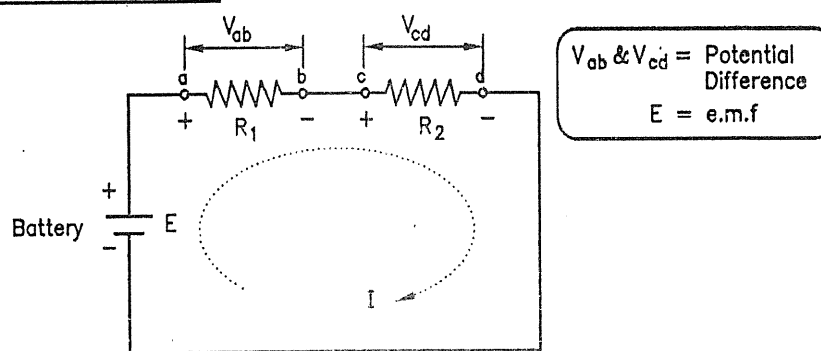

FIG. 1.2
- In Fig. 1.2 current of I ampere flows through the circuit due to emf E . Due to this current flow, potential difference V_{ab} is produced across two terminals of resistor R_1 and potential difference V_{cd} is produced across two terminals of resistor R_2 .